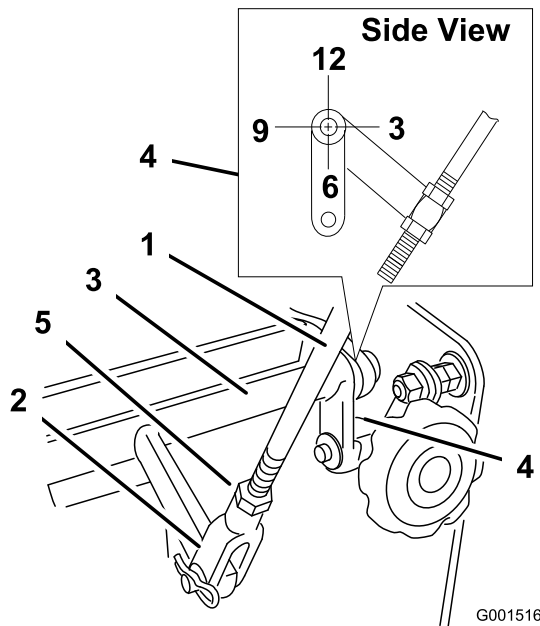

Figure 30
4. Check the orientation of the tabs on the ends of the speed control crank. These tabs should be pointing straight down at the 6 o'clock position approximately (Figure 30).
5. Adjust the threaded yoke at the bottom of the speed control linkage until the tabs are at the 6 o'clock position (Figure 30).